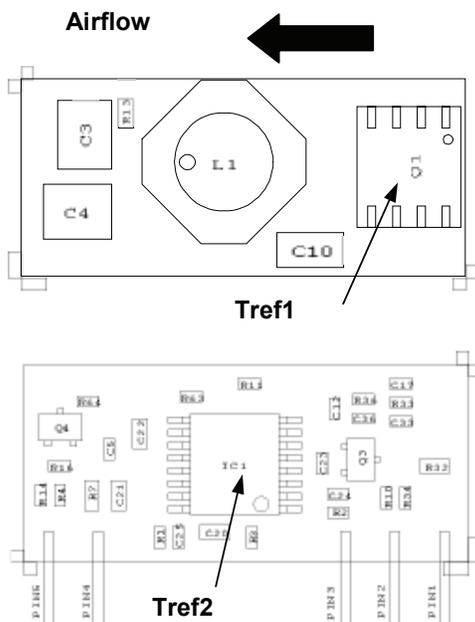
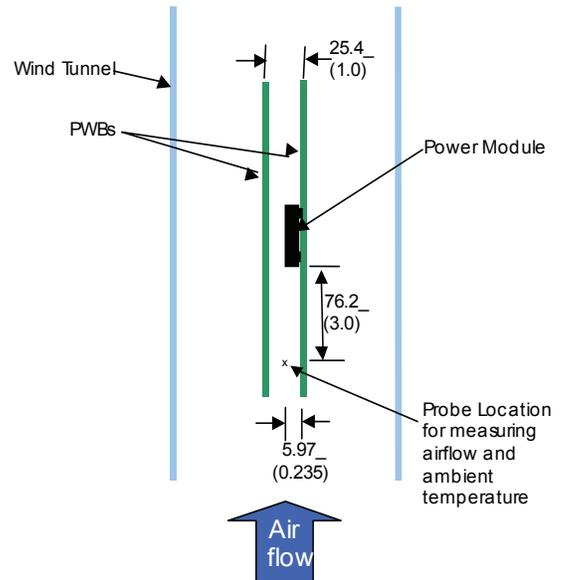

Figure 31. T_{ref} Temperature measurement location.
Figure 32. Thermal Test Set-up.
To provide over temperature protection in a fault condition, the unit relies upon the thermal protection feature of the controller IC. The unit will shutdown if the thermal reference point T_{ref2} , (see Figure 31) exceeds $140^{\circ}C$ (typical), but the thermal shutdown is not intended as a guarantee that the unit will survive temperatures beyond its rating. The module will automatically restarts after it cools down.
Considerations include ambient temperature, airflow, module power dissipation, and the need for increased reliability. A reduction in the operating temperature of the module will result in an increase in reliability. The thermal data presented here is based on physical measurements taken in a wind tunnel. The test set-up is shown in Figure 32. Note that the airflow is parallel to the long axis of the module as shown in figure 31. The derating data applies to airflow in either direction of the module's long axis.
The thermal reference point, T_{ref} used in the specifications is shown in Figure 32. For reliable operation this temperature should not exceed 115°C. The output power of the module should not exceed the rated power of the module (V_{o,set} x I_{o,max}).